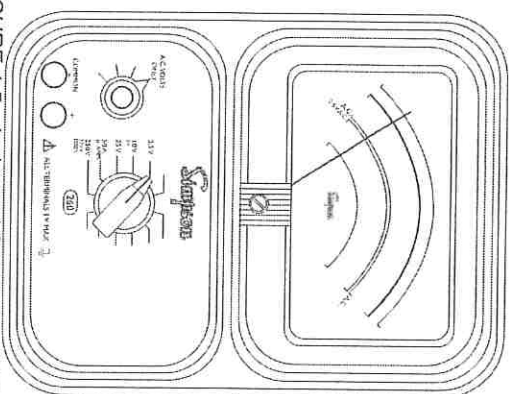

FIGURE 4-5. Jacks and Switch Positions for Measuring AC Voltage 0-2.5 through 0-250V Ranges
- Set the function switch to AC Volts Only position (Figure 4-5).